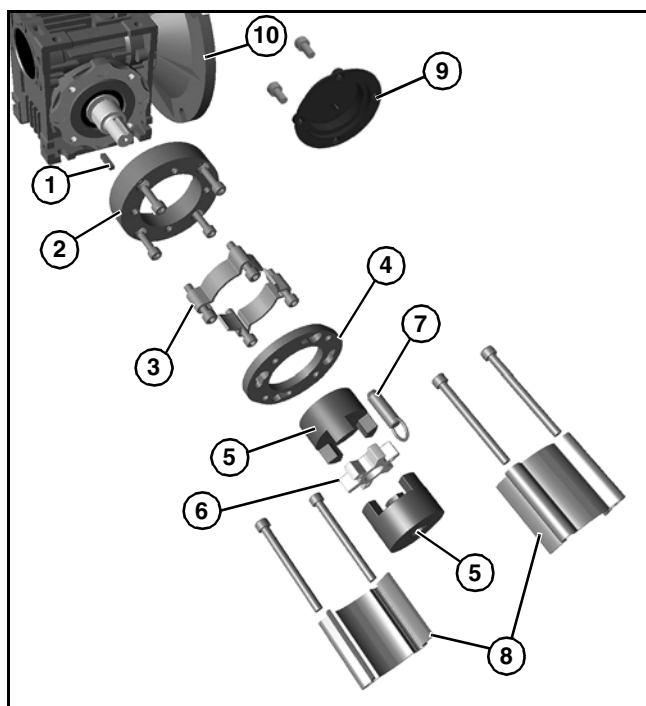

Figure 8
1. Gather installation components (**Figure 8**)